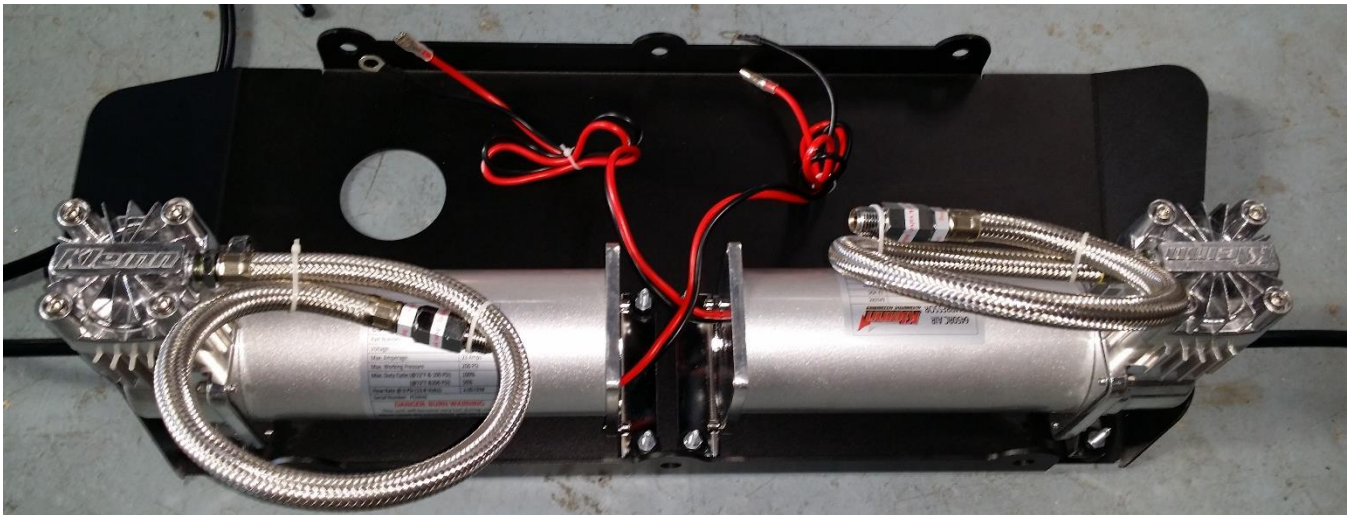

Figure 3 - Compressor Mounted onto JK-101 **JK6450 Upgrade Shown
- 9.2.1. Using hardware #9, #15, & #21 mount Compressor(s) to JK-101 with head(s) of Compressor(s) facing outwards, as shown in Figure 3 below.